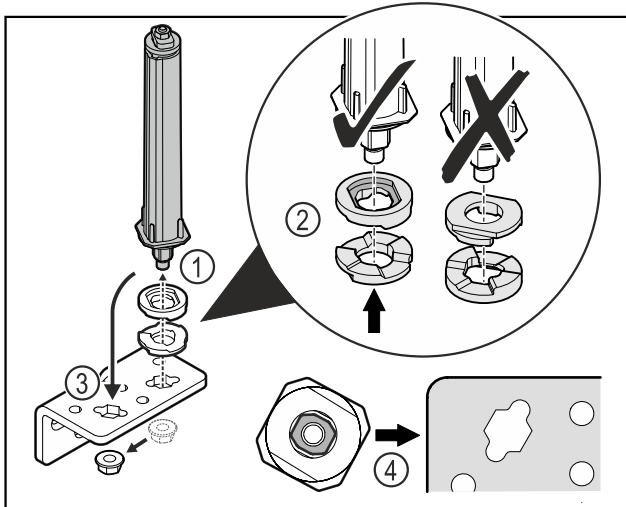

Fig. 30
- ▶ Loosen the nut and remove the door closing system Fig. 30 (1).
- ▶ Observe the correct alignment of the height adjustment washers Fig. 30 (2).
- ▶ Put the door closing system in the hinge fix in place with the nut Fig. 30 (3).
- ▶ Observe the correct alignment of the door closing system when doing so Fig. 30 (4).